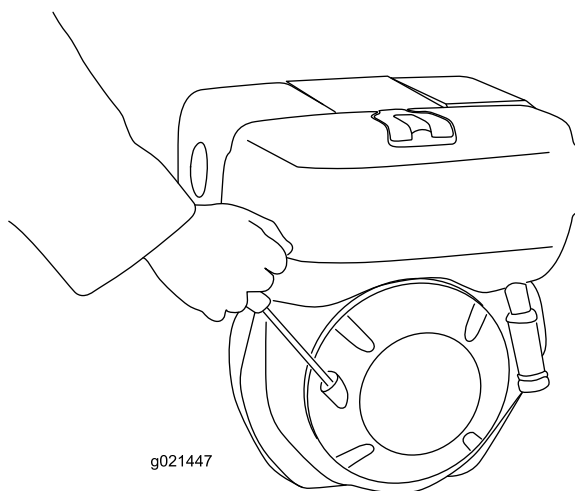

Figure 12
2. Slowly pull the recoil-start handle until you encounter a slight resistance (Figure 12).